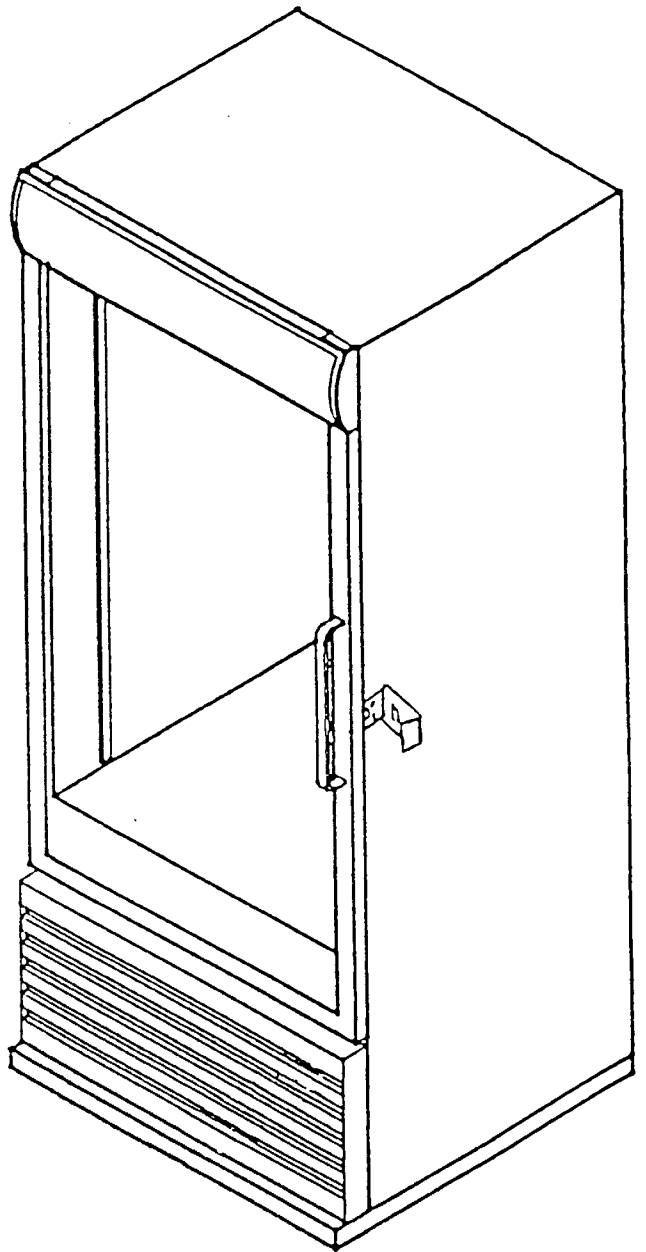

Figure 2
7. Open the hasp. See figure 2, page 3.